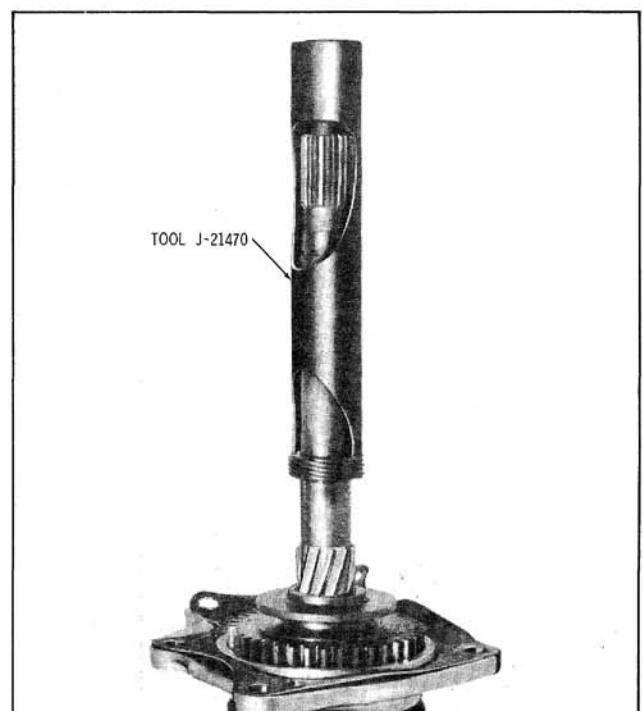

Fig. 7-71 Installing Speedometer Drive Gear
11. 33 through 38 Series - Press speedometer drive gear onto the mainshaft, using a suitable press plate such as J-1453. Position the speedometer gear to get a measurement of 4-5/16" from the forward side of the gear to the flat surface of the rear bearing retainer (Fig. 7-71) or until centered on the mainshaft speedometer drive gear boss.